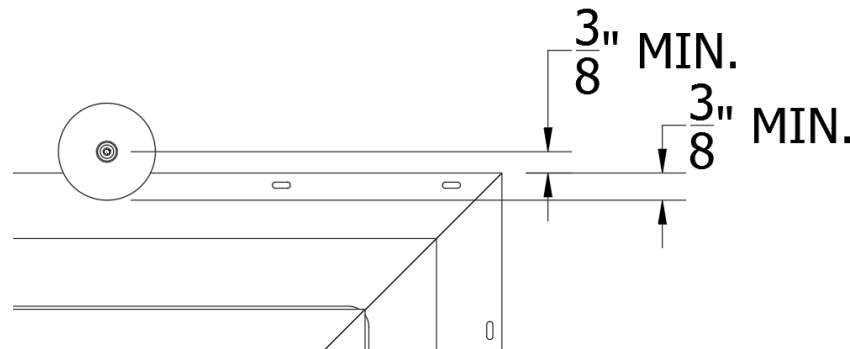

Figure 25: Head Washer Fastening
- II) A minimum of $\frac{3}{8}$ " space should exist between the bottom of the faster shaft and the top of the flange allowing for normal building movement. The washer should also be large enough to overlap the flange a minimum of $\frac{3}{8}$ " and maximum of $\frac{3}{4}$ ". See figure 25.